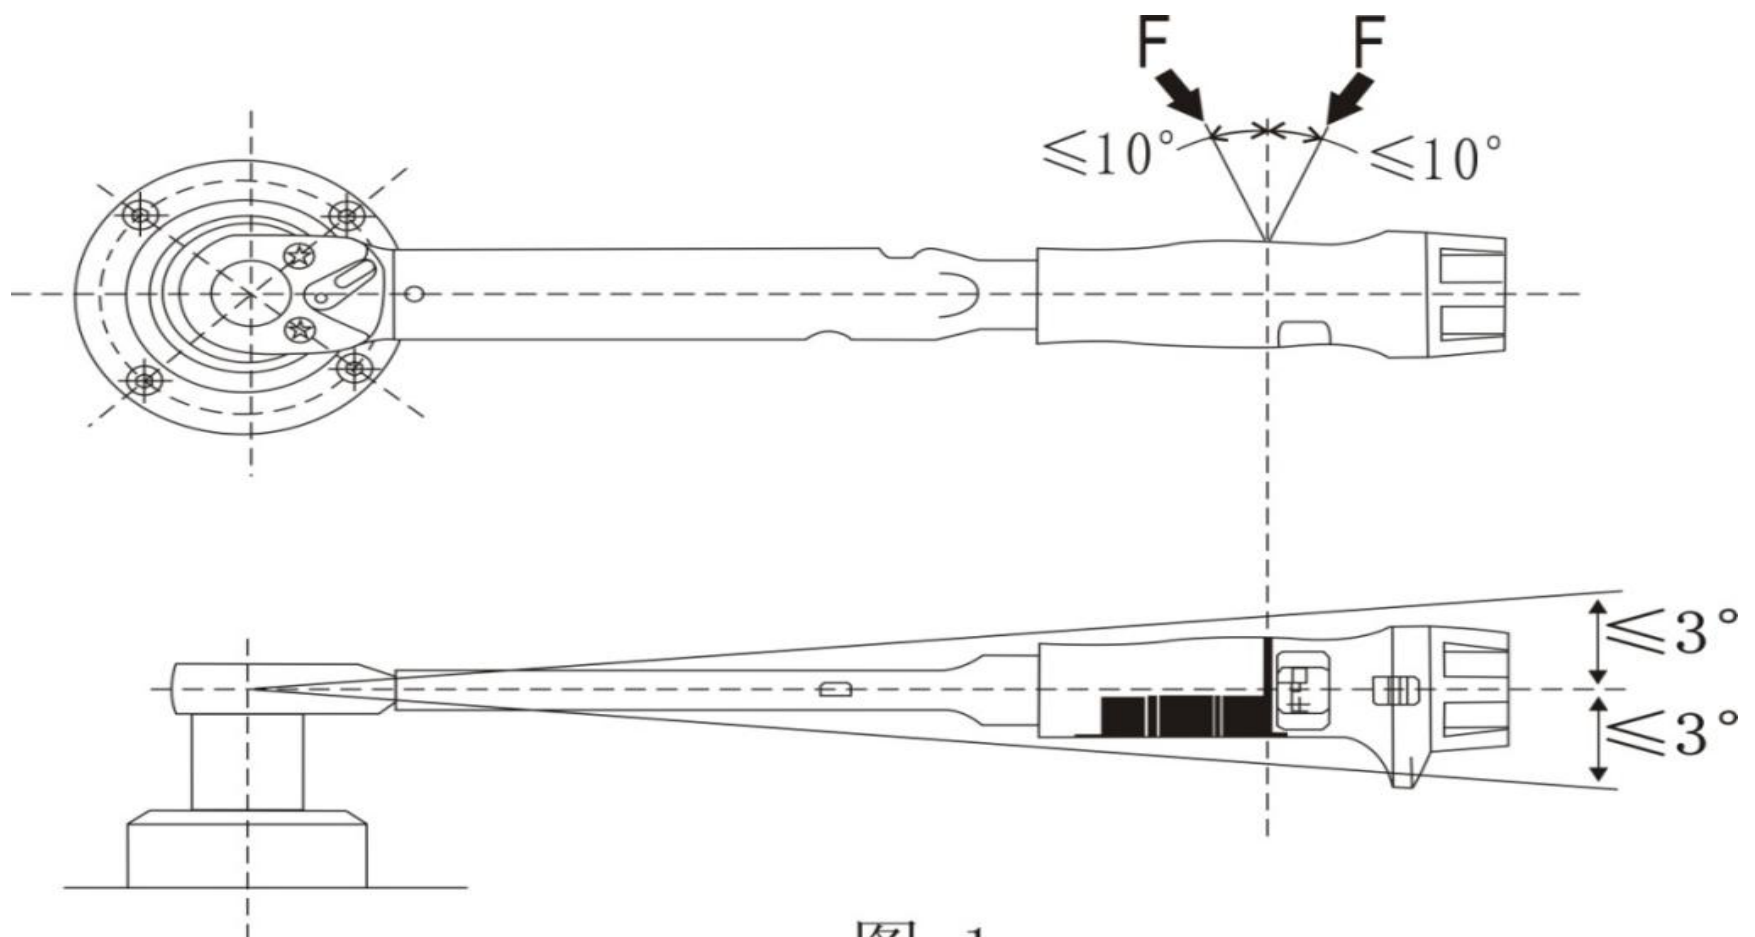

图 1
- (1) Place the torque wrench tester on a stable workbench.
- (2) For direct-reading torque wrenches, when reading the measurement data, the line of sight must be perpendicular to the dial.
- (3) For the trip-type torque wrench, apply the maximum torque of each model 5 times in both directions for trial operation to perform the preheating operation.
- (4) For direct-reading torque wrenches, load the maximum torque of each model once in both directions as a warm-up operation, and ensure that the pointer or digital display shows \"0 \" after loading.
- (5) Apply the load within the range specified in Figure 1 at the center of the handle or at the marked load point.